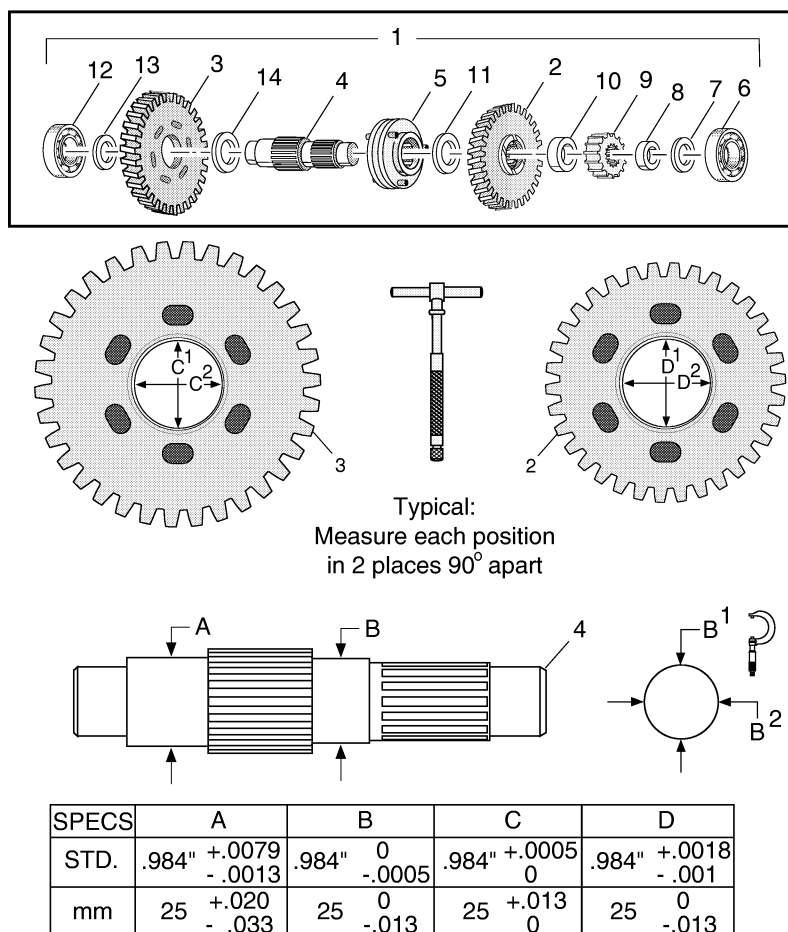

Fig. B-8 Intermediate Gear and Shaft Inspection
1. Inspect the intermediate gear and shaft assembly (1) (Ref Fig. B-8 on page B-5).
- Check for a close fit between the gears (2, 3) and the shaft (4). Gears should spin evenly on the shaft without "play" or wobbling.
- Check pin clutch motion. Pin clutch (5) should slide freely on the shaft.
2. If necessary, disassemble the intermediate gear and shaft assembly (Ref Fig. B-8 on page B-5).
- Using a three jaw bearing puller, remove the bearing (6).
- Remove the spacer (7), collar (8), output gear (9), collar (10), reverse gear (2), spacer (11), and pin clutch (5) from the shaft.
- Using a three jaw bearing puller, remove the bearing (12).
- Remove the spacer (13), drive gear (ITEM 3), and spacer (14) from the shaft.